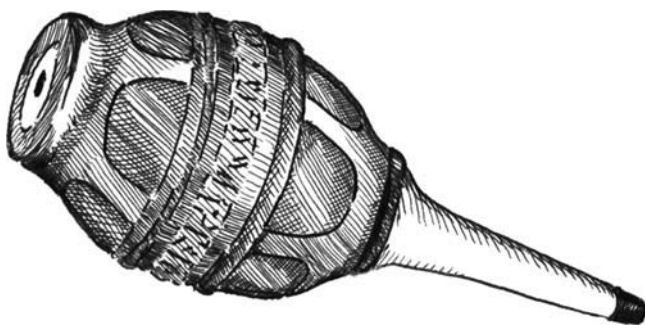

Figure D.13 Blower bulb syringe.
- Blower bulb syringe (see Figure D.13)